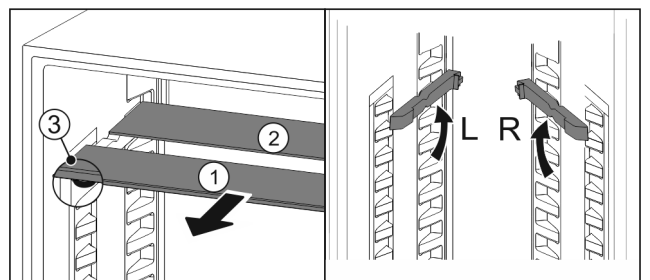

Fig. 29
- ▶ Pull the glass panels out Fig. 29 (1) from the front, one at a time.
- ▷ The glass panel Fig. 29 (1) with the trim strip is at the front.
- ▷ The stops Fig. 29 (3) point downward.